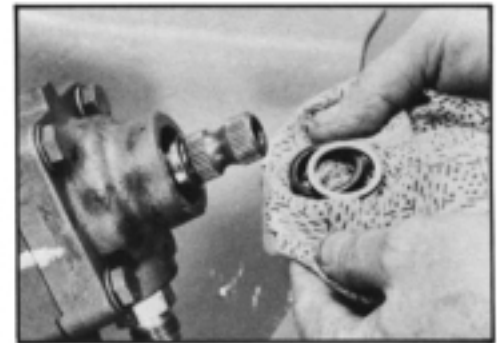

Figure 23
- 2.5 The air pressure will force the input shaft seal (4) and the steel backup washer (3) to pop out of the gear, and some fluid will leak from the gear. Discard the seal. Disconnect the shop air as soon as the seal assembly is out. SEE FIGURE 23.